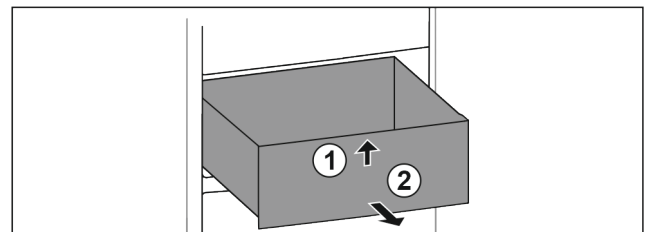

Fig. 73
- ▶ Lift up drawer at the front. Fig. 73 (1)
- ▶ Remove drawer to the front. Fig. 73 (2)